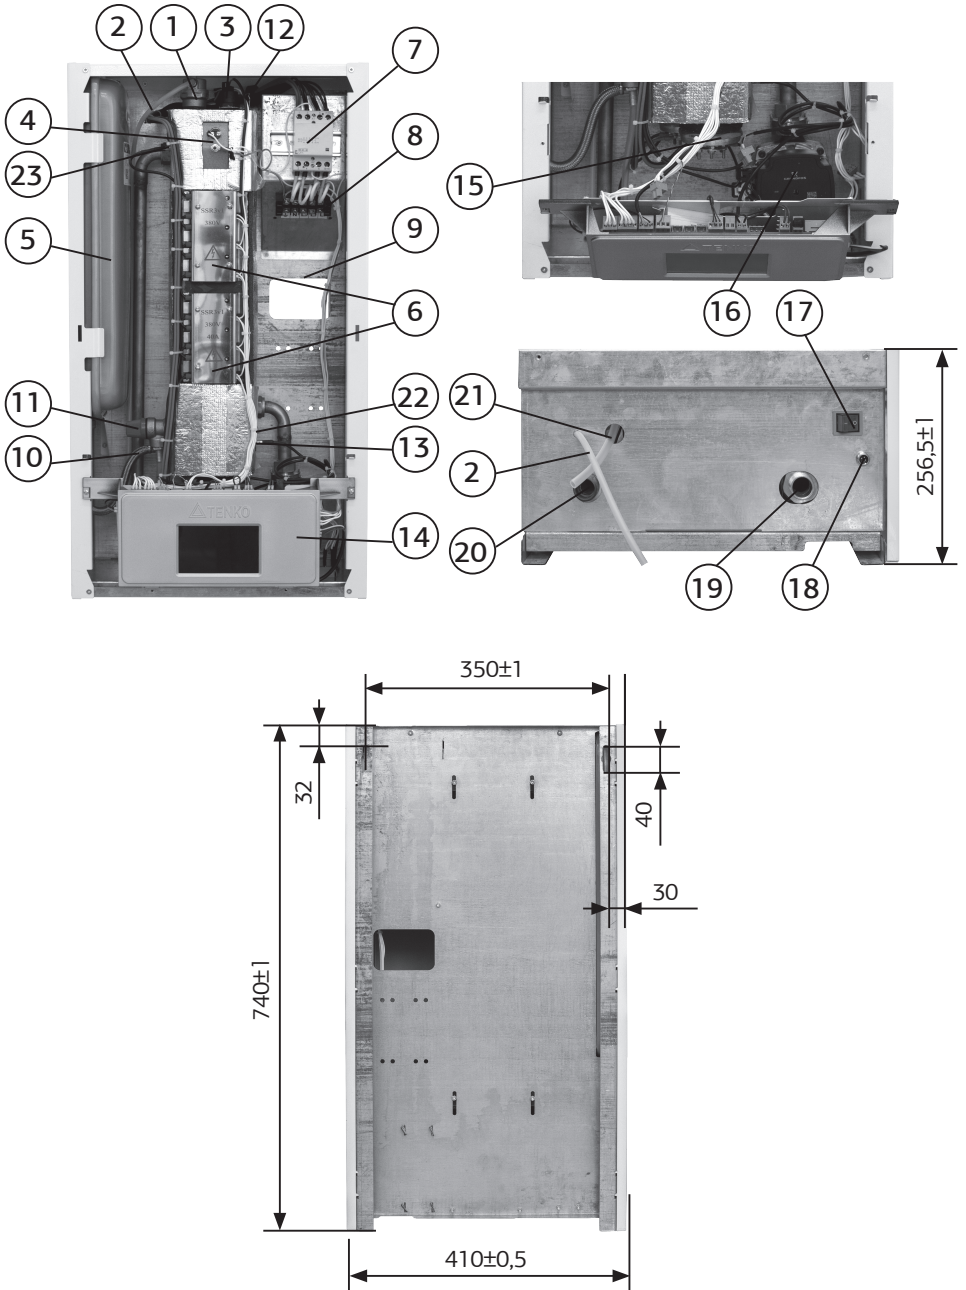

Fig.1. Appearance of the SMART TM TENKO series boilers
3.1. The product appearance is shown in Fig.1 with the designation of its assembly units. During production, some elements can be replaced with similar ones, which will not affect the product operation.